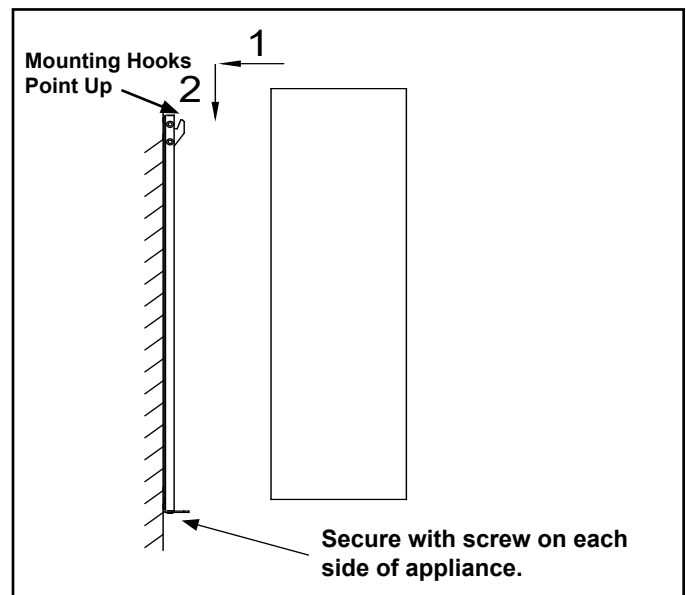

Figure 8 Attaching Appliance to Bracket
3. Hang the appliance and pull down to ensure the hooks are fully engaged. See Figure 8.
4. Secure the appliance to the bracket with two M5X10 screws. See Figure 8.
1. Attach appliance to wall bracket on the wall. Install two (2) screws on the bottom of the appliance to secure the appliance to the bracket. See Figure 8.